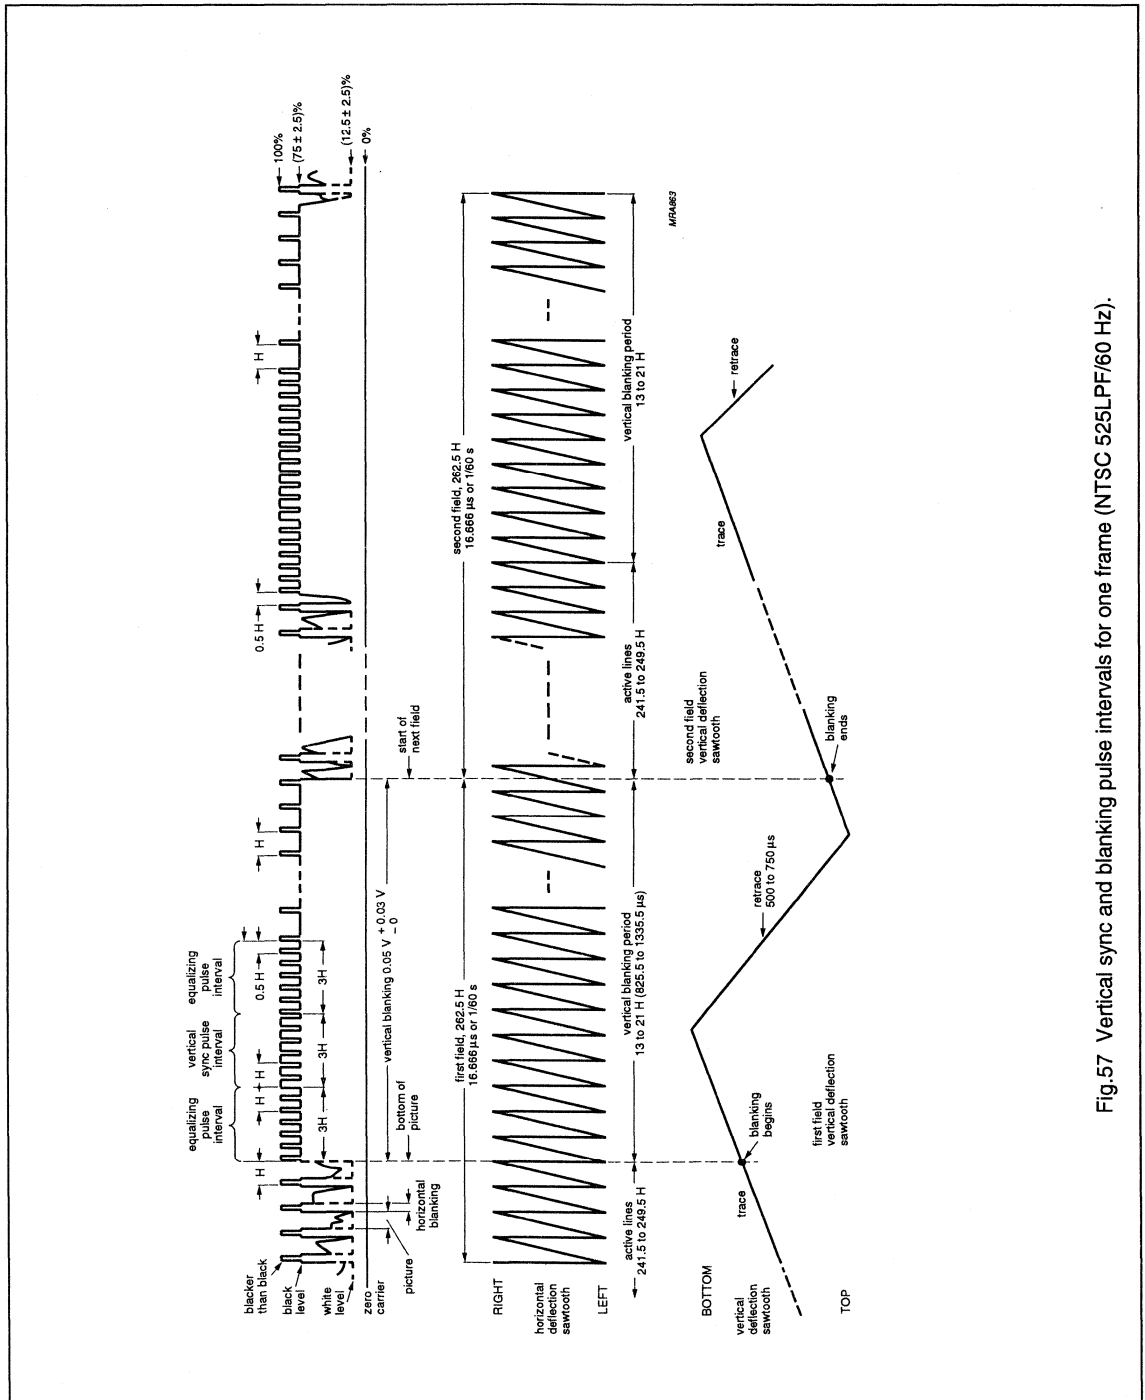

Fig.57 Vertical sync and blanking pulse intervals for one frame (NTSC 525LPF/60 Hz).
- In NTSC 525/60, the active lines are roughly 241.5H to 249.5H per field (Fig.57). Take 241 as an example, the maximum number of character rows per frame is (remember a character is  $12 \times 18$  dots):